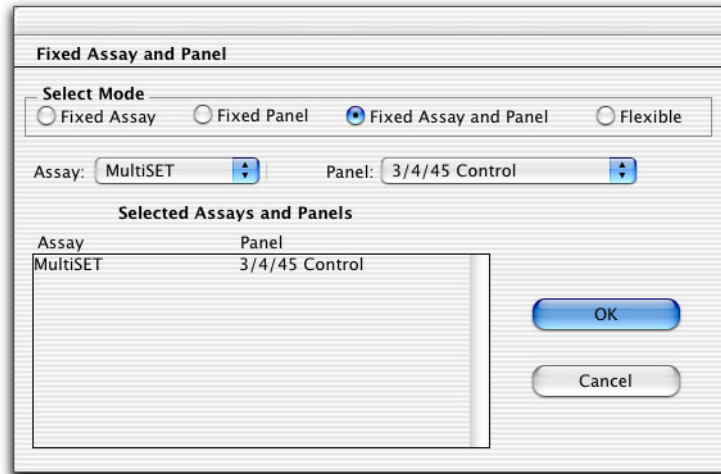

Figure 3-5 Assigning a fixed assay or panel to all samples
- To assign all samples, click the Fixed Assay/Panel button in the button panel and make appropriate choices in the dialog that appears (Figure 3-5).